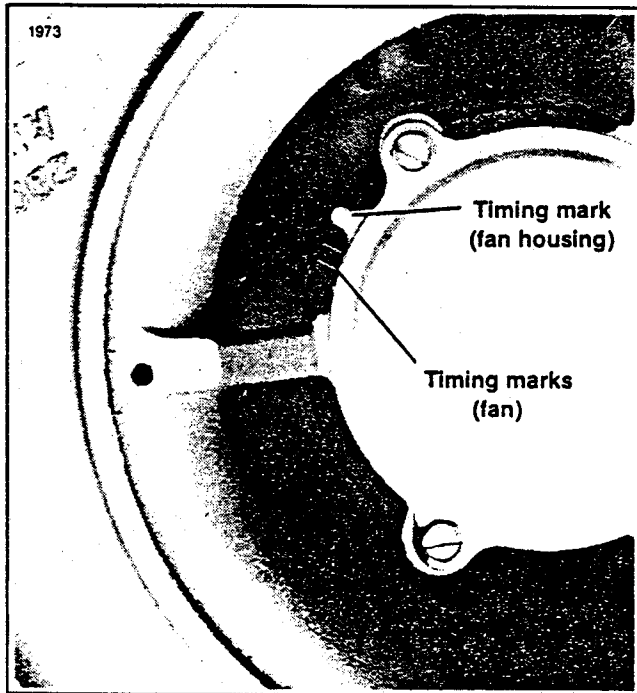

Figure 8-14. Timing Marks
The timing marks are located on the fan and fan housing. See Figure 8-14, as viewed through the fan housing screen. When these two marks are aligned the piston is at 19° BTC before top center.
2. Forward Timing: Turn engine crankshaft clockwise in forward operating direction until timing marks are aligned as shown in Figure 8-14. This is the point at which circuit breaker contact should open.